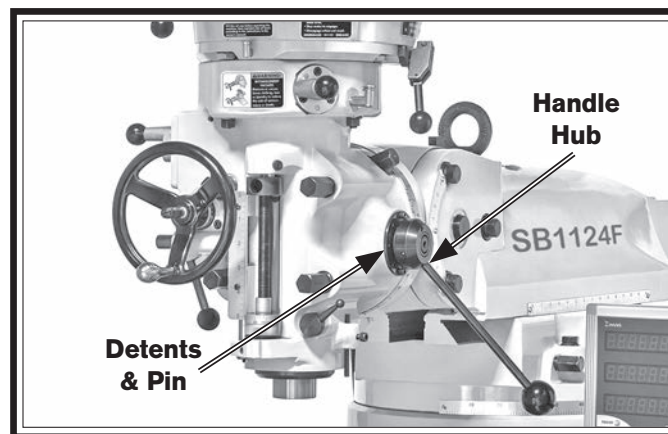

Figure 46. Coarse downfeed handle hub, detents, and pin.
4. Make sure pin in coarse downfeed handle hub is engaged with one of the detents on downfeed sleeve (see **Figure 46**).